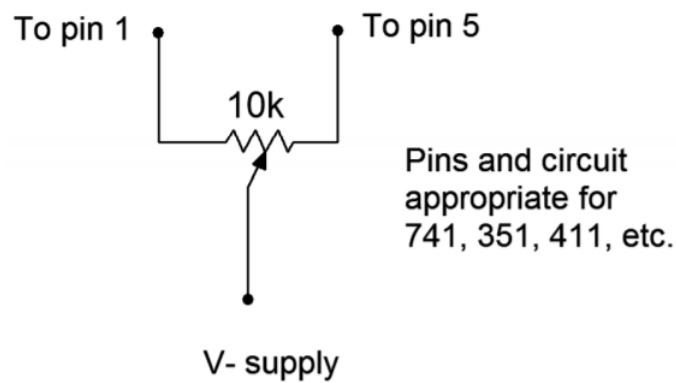

Figure 11.5.2
8. Manufacturers normally allow for output nulling through the addition of external circuitry. Modify the circuit by adding the components shown in Figure 11.5.2. Using the 47k Ω resistor for R_f , adjust the potentiometer to null the output. Also, record the DC output voltage with the potentiometer fully clockwise and fully counterclockwise.